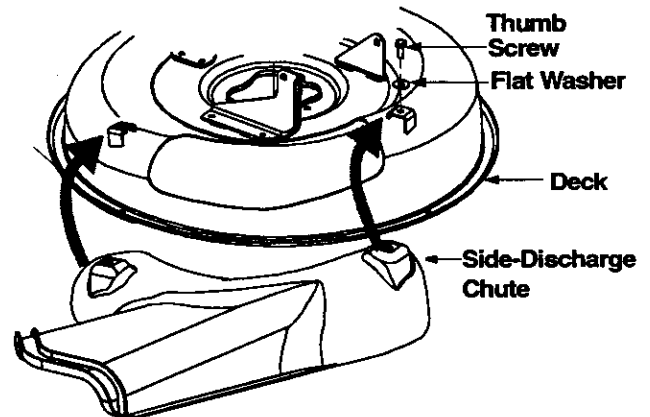

Figure 2
3. Place the side-discharge chute on the deck so that the two holes on its two ends align with the two holes on the deck where the grass catcher chute was attached. See Figure 2.
4. Insert a thumb screw and a flat washer, removed in step 2, through the left hole on the chute and the corresponding hole on the deck. See Figure 2. Thread the screw a few turns to secure, but do not tighten at this time.
2. Remove the thumb screw and flat washer attaching the two ends of the discharge chute to the deck. (Refer to Figure 2 for the discharge chute set-up.) Slide the discharge chute out of the deck housing; remove and save the hardware.